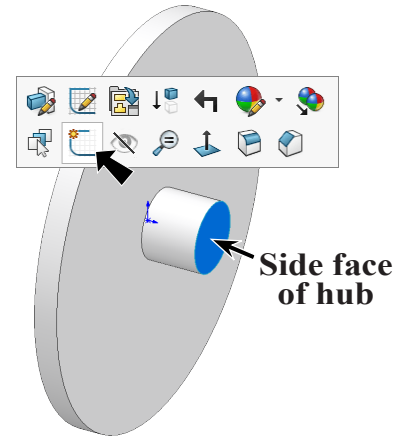

Fig. 8
Step 1. Click the **side face of hub** and click **Sketch**  on the context toolbar, **Fig. 8**.
Step 3. Click **Circle**  (S) on the Sketch toolbar.